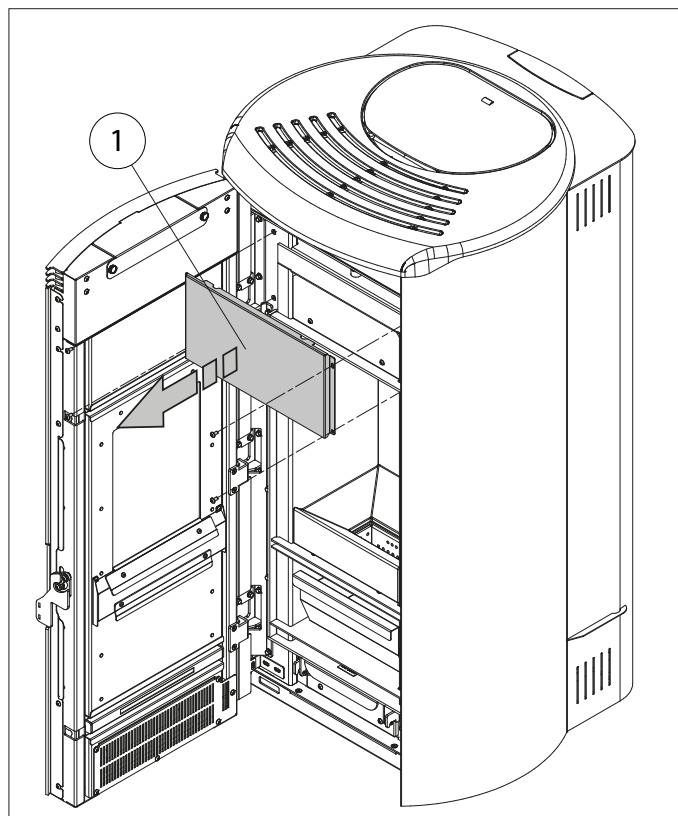

Fig. 6.3a
- Open the door, loosen the fixing screws of the front panel (1) and remove it (Fig. 6.3a), to access the vent valve.